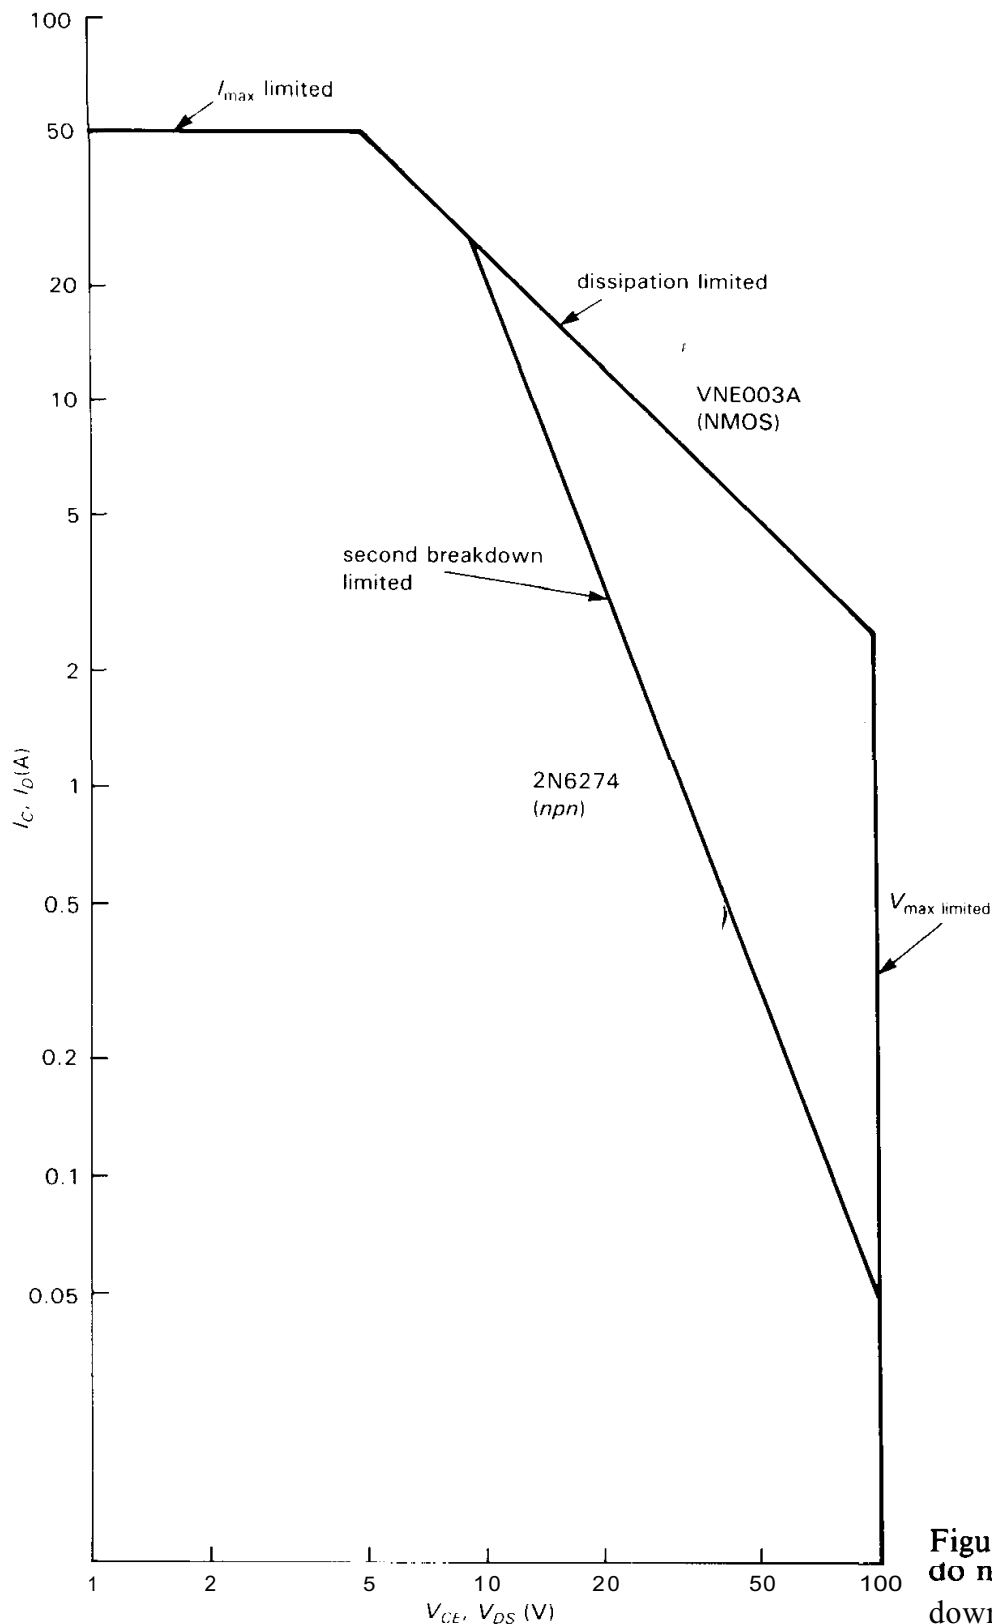

Figure 3.66. Power MOSFETs do not suffer from second breakdown.
these junction hot spots entirely. MOSFETs have no second breakdown, and their safe operating area (SOA) is limited only by power dissipation (see Fig. 3.66, where we've compared the SOAs of an *n*pn and an NMOS power transistor of the same I_{\max} , V_{\max} , and P_{diss}). For the same reason, MOSFET power amplifiers don't have the nasty runaway tendencies that we've all grown to love in bipolar transistors (see Section 2.15), and as an added bonus, power MOSFETs can be paralleled without the current-equalizing "emitter-ballasting" resistors that are necessary with bipolar transistors (see Section 6.07).
□ **MOSFETs versus BJTs as high-current switches.** Power MOSFETs are attractive alternatives to conventional power BJTs most of the time. They currently cost somewhat more, for the same capability; but they're simpler to drive, and they don't suffer from second breakdown and consequently reduced safe-operating-area (SOA) constraints (Fig. 3.66).